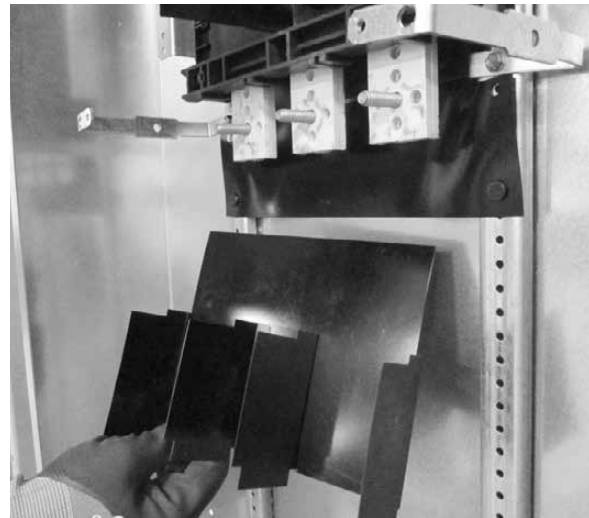

Figure 6A. Illustration of phase barrier removed.
11. If applicable, reinstall the vertical main device and/or vertical sub-feed device along with straps removed in step 6 of Section B. When installing the devices ensure the phase barrier separating the straps is correctly aligned as shown in Figures 6A through 6C. Torque the 5/16" nuts to 110 in-lbs and mechanical mounting hardware to 30 in-lbs.